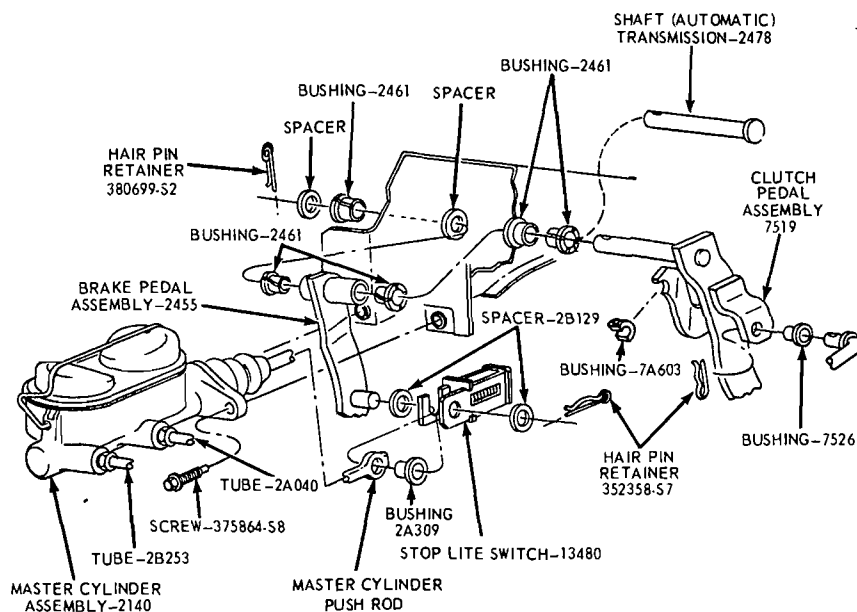

FIG. 27—Dual-Brake System Master Cylinder Installation — Mustang and Cougar Without Power Brakes
Refer to Fig. 27.
2. With the cables slack, disconnect the ball-ends from the connector (Fig. 27).